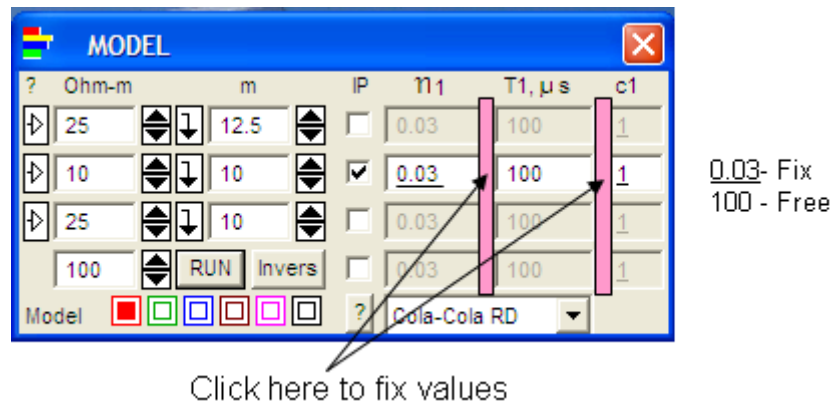

Fig. 21a
It is possible to fix or to release the parameters of dispersion directly in the window **Model** (Fig. 21a) by click by right mouse button onto red painted margin.
All possible operations are shown in subsidiary **Help** window (Fig. 8). Fixation of the layers' parameters is reflected in the panel **Model** as circles with the color corresponding to a chosen model. For example, in shown below case (Fig. 21a), the resistivity of second layer (10 Ohm-m) and thickness of the first layer (12.5 m) in the model 3 (blue square) are fixed.
2. All possible operations can be seen in the **Help (?)** window (Fig. 21a, left upper corner of the **MODEL** window).